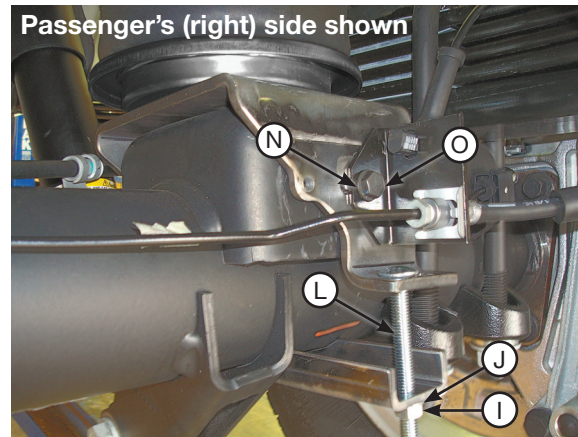

fig. 14
1. Position the lower bracket to best align the bellows. Insert two 3/8" x 3.5" carriage bolts (L) through lower bracket mounting legs (Fig. 14).
2. Insert the lower clamp bar (M) over the two carriage bolts previously installed and cap with two 3/8" nylon lock nuts (I) and flat washers (J). Torque evenly to 16 lb.-ft. (22Nm).
3. Attach the brake lines that were un-bolted from the rear of the axle in the "Getting Started" section by attaching them to the lower bracket with the new M8 screws (O) and flat washers (N) provided (Fig. 14). Tighten securely.
4. Attach the brake cable on the passenger's side, forward of the axle with the new M8-1.25 x 10 hex cap screw (O) and 3/8" flat washer (J). Tighten securely.